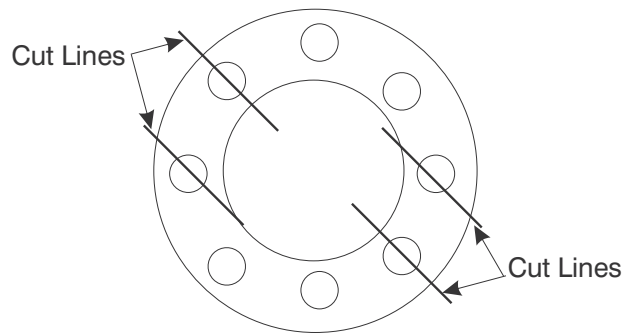

Figure 8-19. Cutting Pattern for Shock Absorber.
5. Use a sharp knife or hack saw to cut through the Shock Absorber (8), and remove it from the End Cap (9). See Figure 8-19.